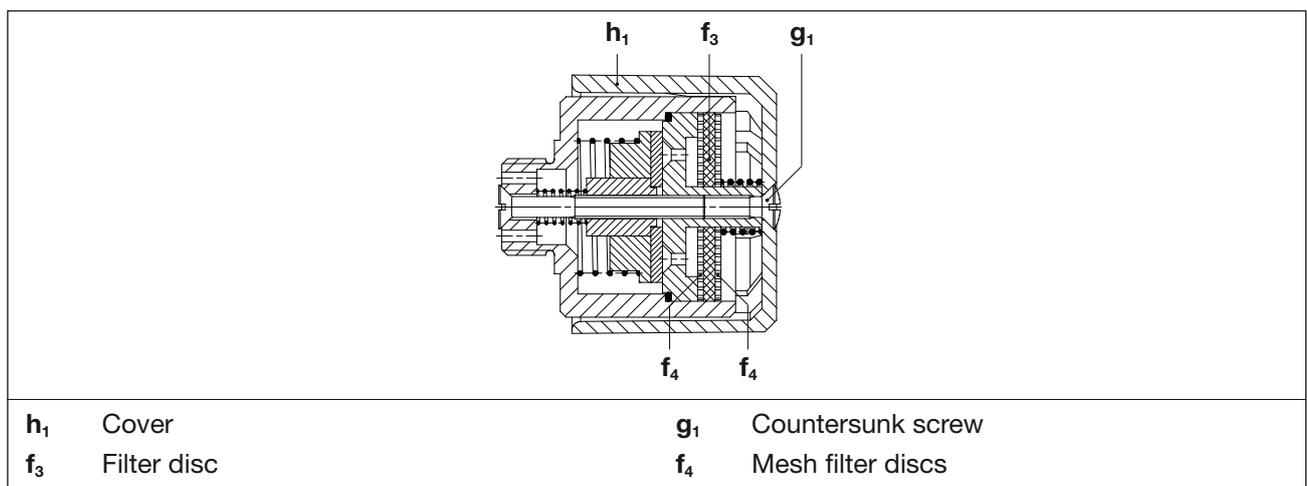

Fig. 11 Gas ballast valve
Depending on the pollution of the running through medium, clean the installed filter disc (Fig. 11/f₃) and mesh discs (Fig. 11/f₄) more or less often by blowing off.
- a) Release the countersunk screw (Fig. 11/g₁) and remove the plastic hood (Fig. 11/h₁).